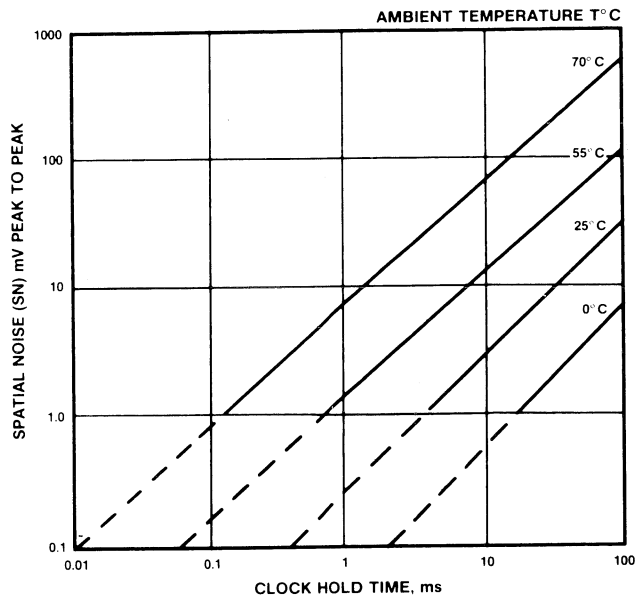

Fig.7 Typical output spatial noise as a function of clock hold time and operating temperature
When the shift register has been loaded with analogue signals, the clocks may be interrupted to achieve temporary storage of the information. The samples are retrieved when the clocks are subsequently re-started. The clocks must be stopped in the state $\Phi_1 = \Phi_L$ in order to minimise degradation of the signal due to thermal leakage currents. The maximum hold time is determined by the spatial noise parameter (SN). Spatial noise magnitude is a function of stop clock period and of operating temperature as shown in Fig.7.